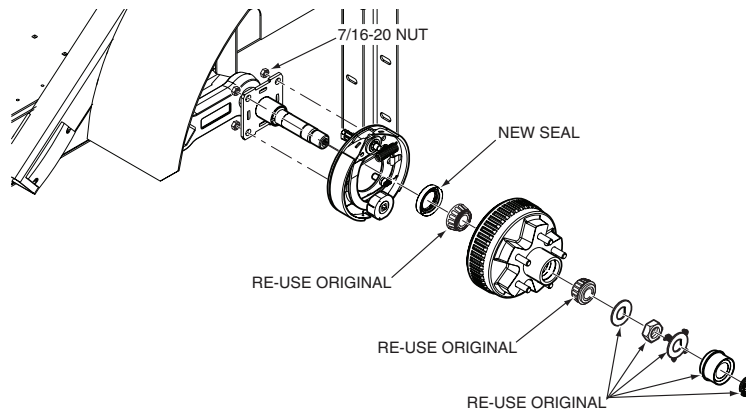

Figure 3. Brake Assembly and Brake Drum Installation
5. Install the brake assembly to the axle and secure using four (4) 7/16-20 UNF nuts. See Figure 3.